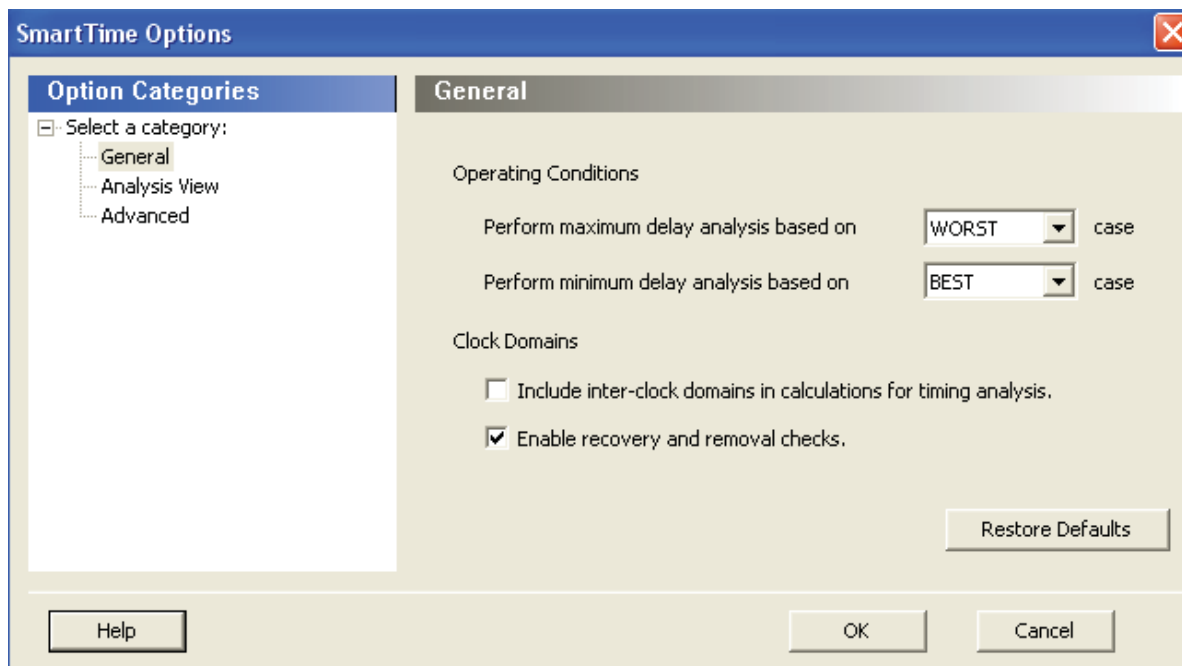

Figure 45 • SmartTime Options Dialog Box
1. Open the SmartTime Options dialog box (Figure 45) by selecting **Tools > Options** from the SmartTime menu bar. You can see that the maximum delay analysis is based on BEST and the minimum delay analysis is based on WORST condition.